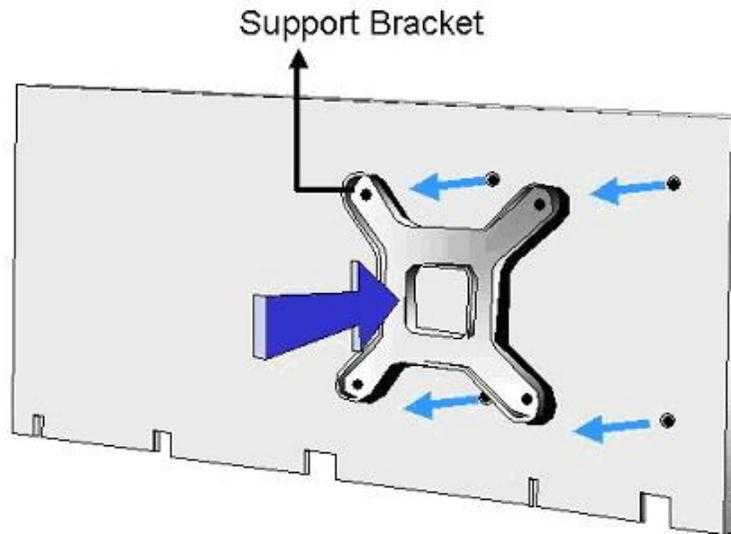

Figure 4-9: Securing the Cooling Kit
- Step 4: Secure the cooling kit.** From the solder side of the PCB, align the support bracket to the screw threads on heat sink that were inserted through the PCB holes. (**Figure 4-9**).
- Step 6: Connect the fan cable.** Connect the cooling kit fan cable to the CPU fan connector on the motherboard. Carefully route the cable and avoid heat generating chips and fan blades (**Figure 4-9**).